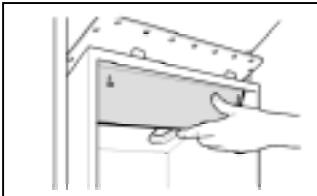

Figure 5
1. Detach the firebox port cover by removing two screws. see figure 5